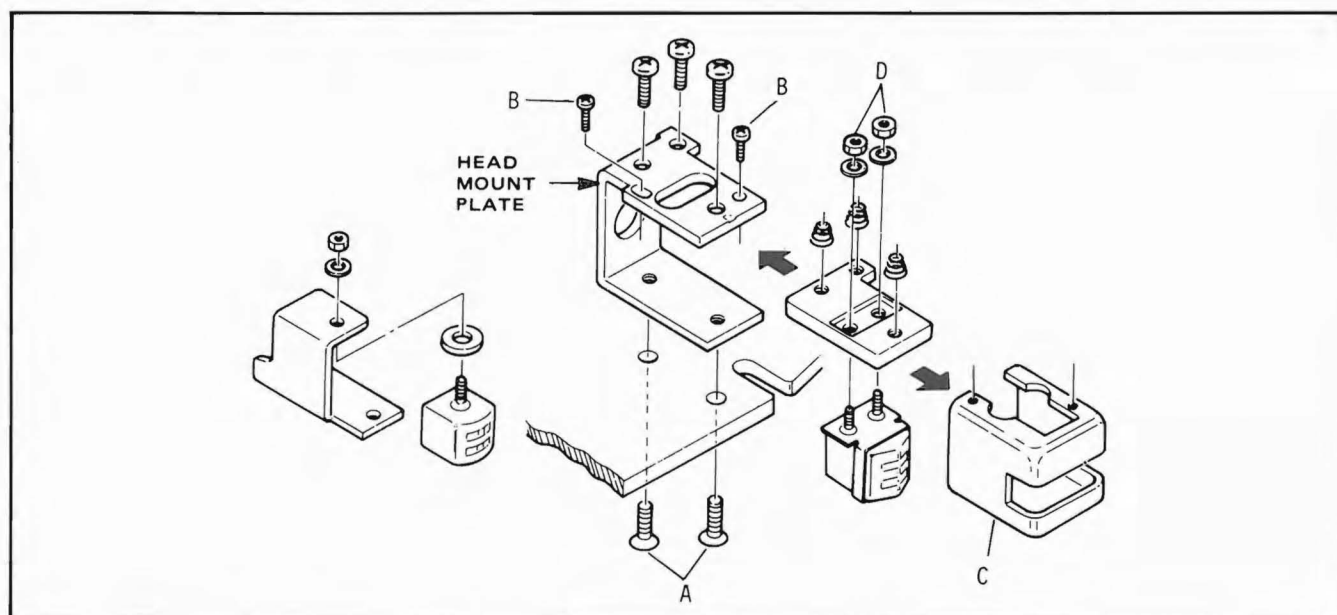

Figure 5-24. Head Disassembly
5. To remove shield case from head, refer to Figure 5-24 and loosen A screws from the rear plate of the head assembly. Then remove two small B screws from the top of the head and slide off shield case C.
6. To replace a single head, a nut driver is required. Remove the two D nuts (shown in Figure 5-24) on the defective head through the access hole provided. This releases the head from the mounting plate.